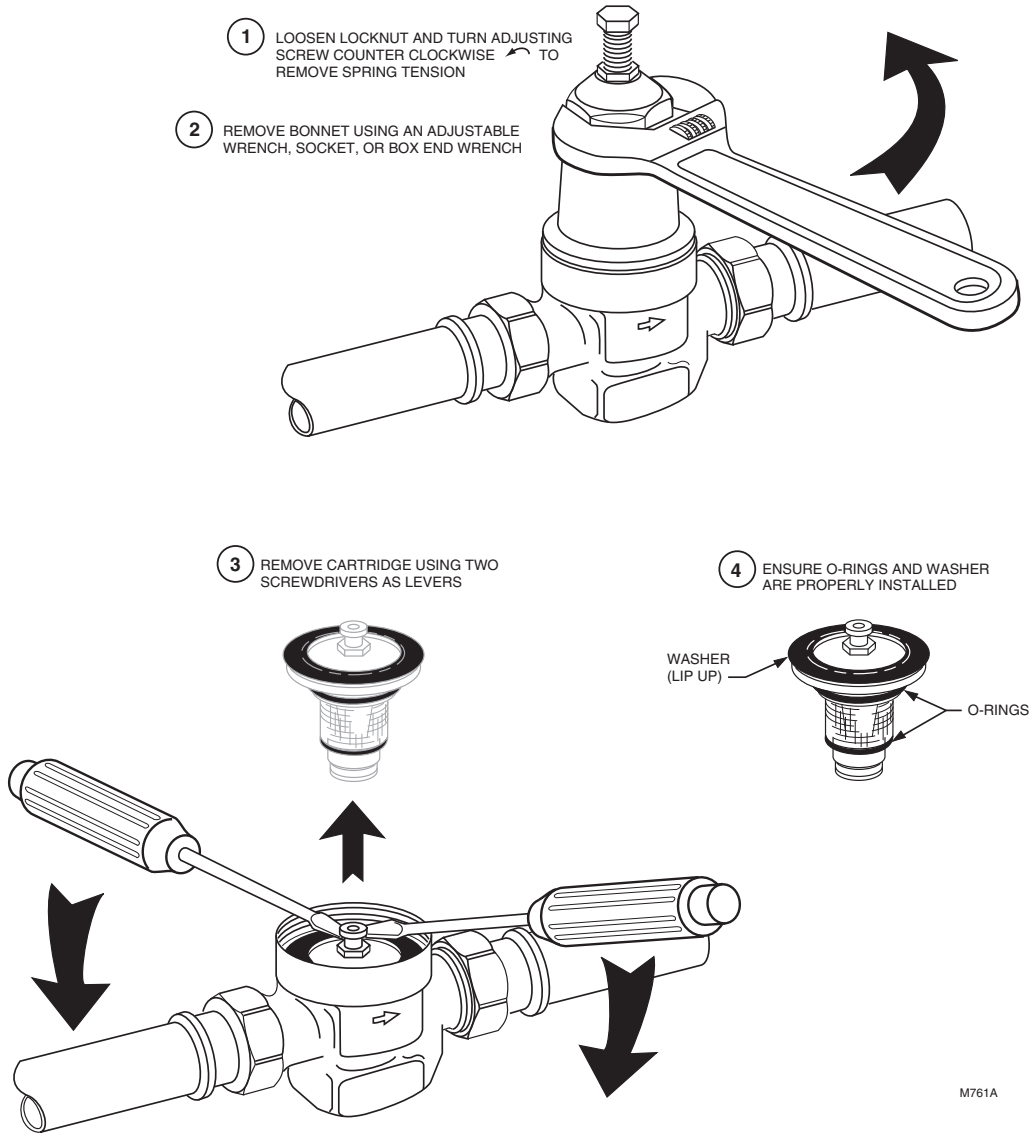

Fig. 3. Replacing the D05T cartridge.
Replacing the Cartridge (See Fig. 3)
4. Remove the cartridge using two screwdrivers as levers as shown in Fig. 3.